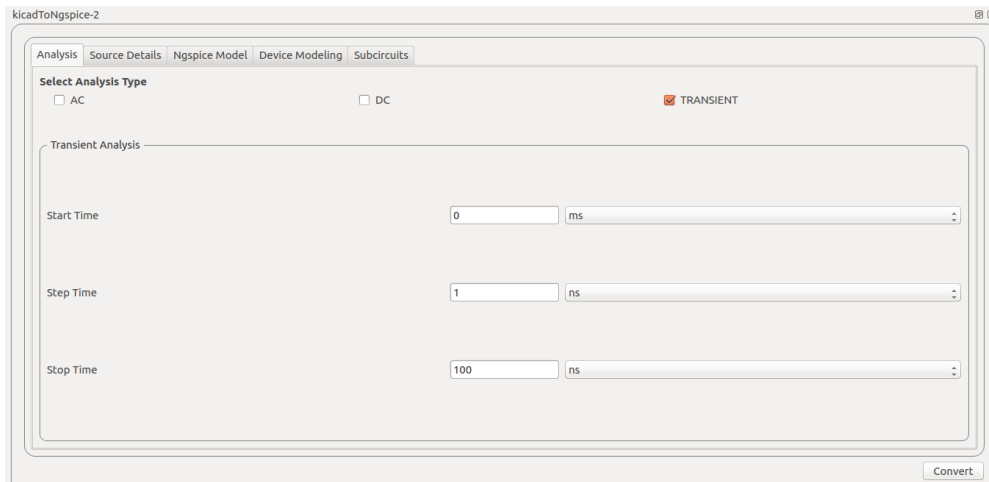
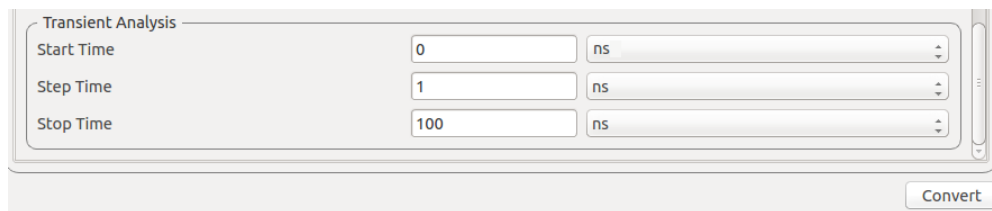

Figure 10.11: Analysis Part I
Figure 10.12: Analysis Part II
5. After creating the schematic, click on KiCad-to-Ngspice converter and select the type of analysis as transient as shown in Fig. 10.11 and set the start, step and stop time as shown in Fig. 10.12